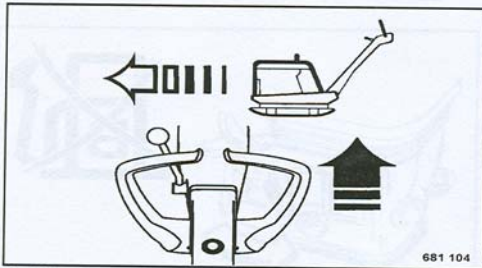

Fig. 23
- Move the travel lever (Fig. 23) forward, according to the desired speed.